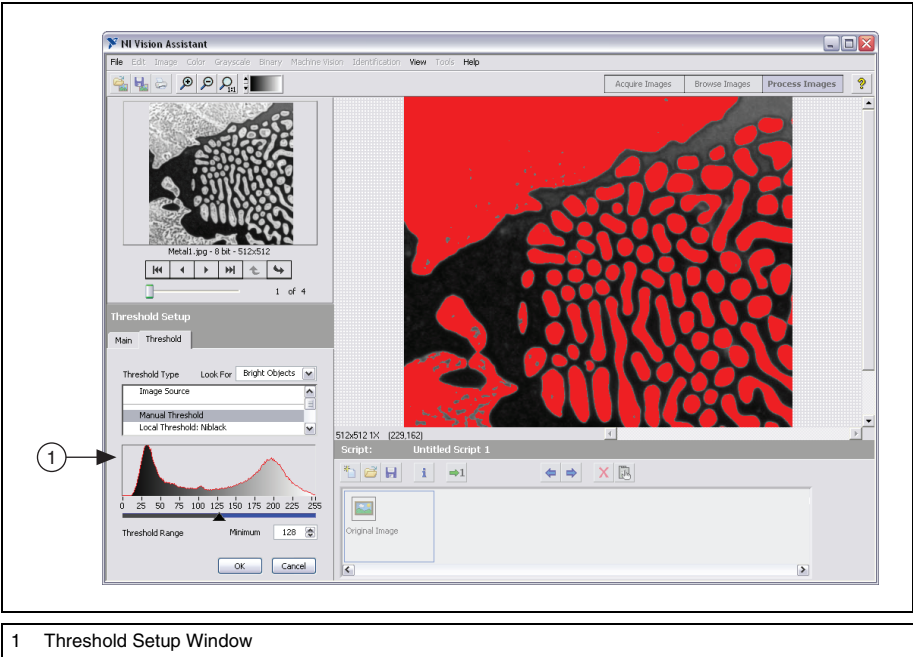

Figure 2-3. Thresholding an Image
- **Processing Functions Window/Setup Window**—Displays a list of image processing functions you can use to develop an algorithm, or displays parameters that you can set for an image processing function. Each function available through the Processing Functions window has a Setup window in which you set the parameters for that function. Refer to Figure 2-3, *Thresholding an Image*, to view an example of the Setup window for the Threshold function.
9. Click **Threshold** in the **Grayscale** tab of the Processing Functions, or select **Grayscale»Threshold**. The Threshold Setup window opens in the lower left corner of the Vision Assistant window, as shown in Figure 2-3.